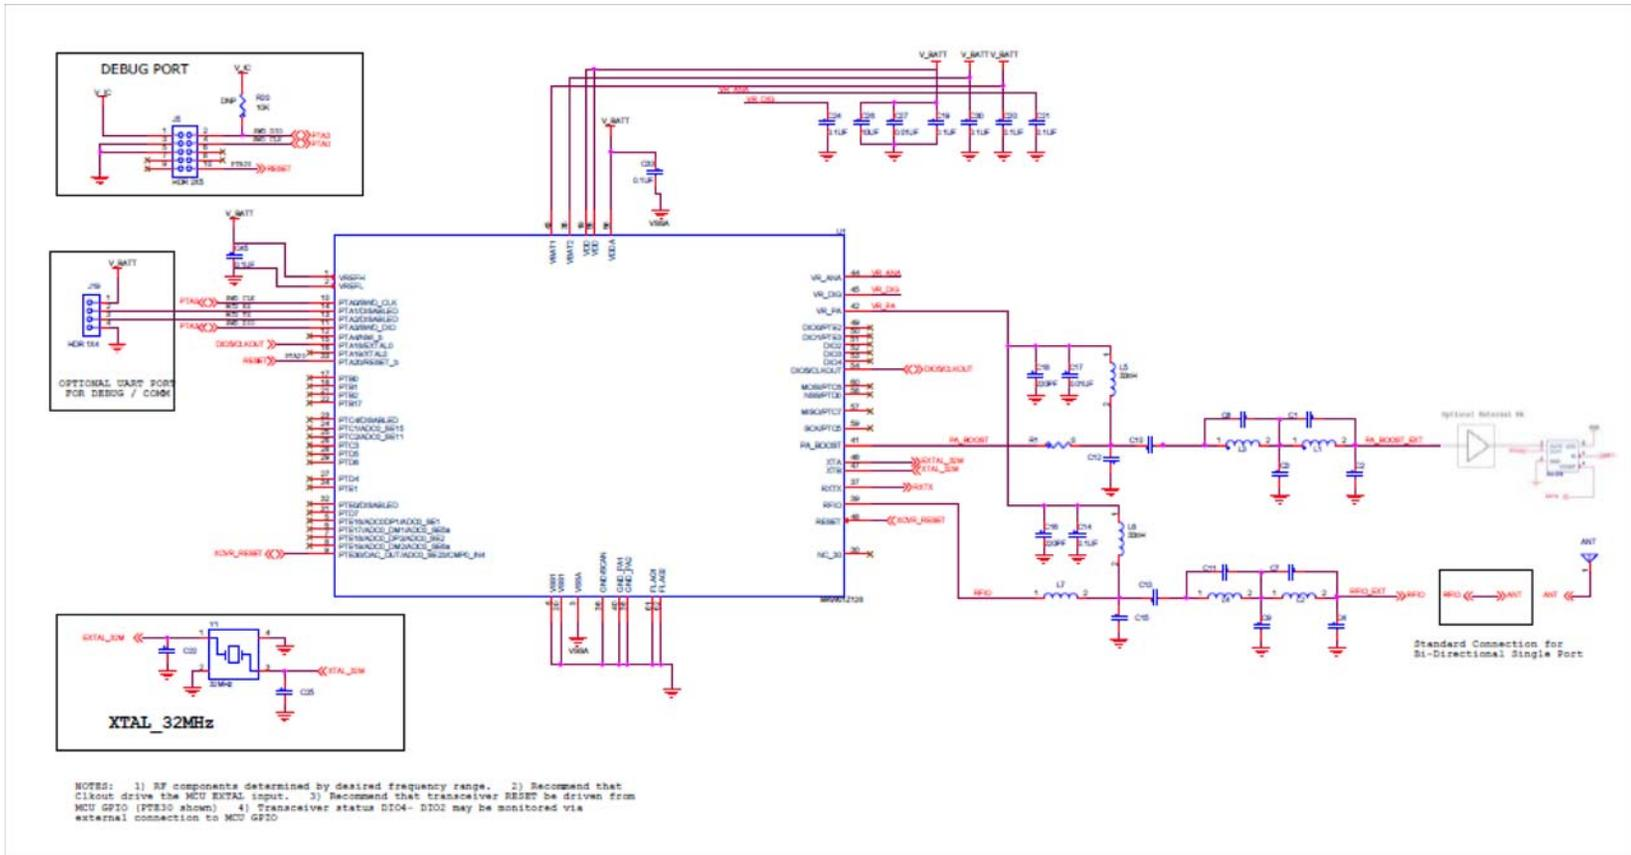

Figure 7. MKW01 Application Circuit Options
Figure 7 shows a MKW01 typical applications circuit with and without use of an external power amplifier (PA) (driven by the RF power boost feature). Note a number of circuit features:
Freescale also recommends that the transceiver RESET is driven by an MCU GPIO to provide total hardware control of the transceiver. Figure 7 shows GPIO PTE3 (preferred), but any GPIO can be used.
Two common RF wiring options are shown in Figure 7: